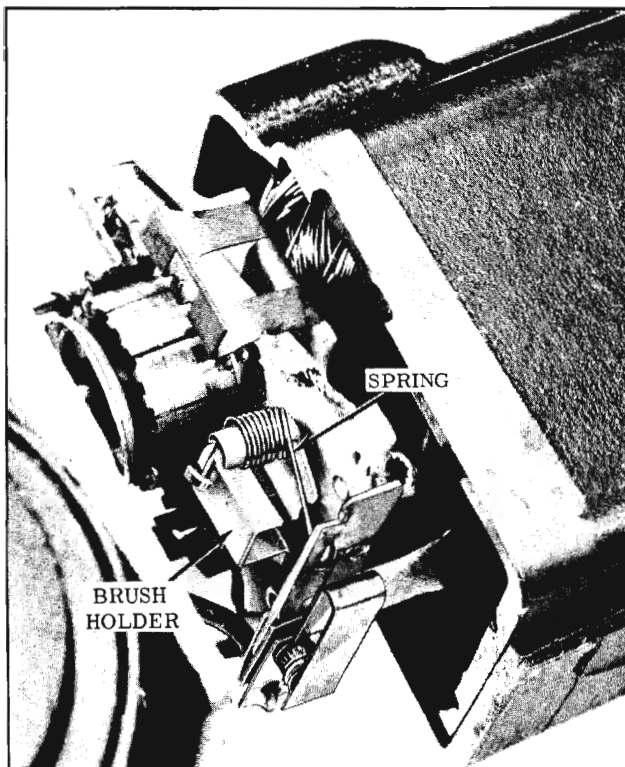

Fig. 14-168 Removing Armature
2. Release brush spring pressure against brushes as shown in Fig. 14-168.
- c. Brush springs improperly positioned. (Fig. 14-168)